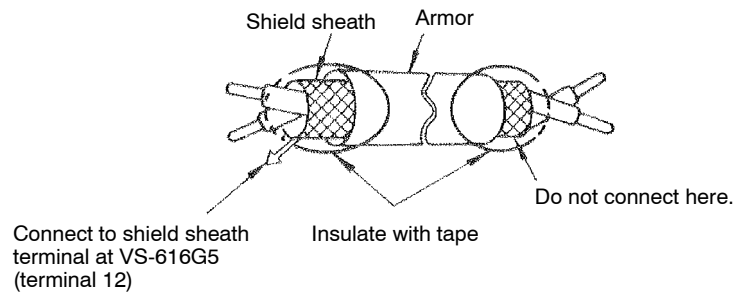

Fig 3.21 Processing The Ends of Twisted-pair Cables
- Use shielded twisted-pair cables for control circuits to prevent operating faults. Process cable ends as shown in Figure 3.21.